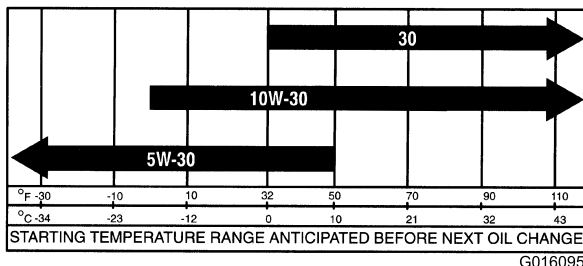

Figure 45
**Engine-oil viscosity:** 10W-30; Choose an engine-oil viscosity according to the ambient-air temperature to the table in Figure 45.